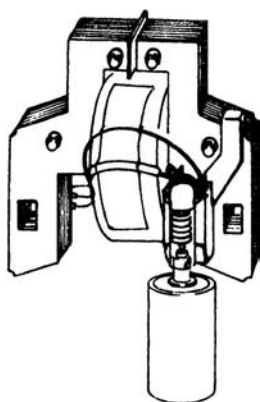

FIG. 3-22. Use a Briggs PN 294628 condenser or a drill bit to compress the spring on the trigger-module connection.
11. Compress the retainer spring with a Briggs condenser or a $\frac{3}{16}$ -in. drill bit, as shown in Fig. 3-22. Insert the end of primary wiring, which you soldered together in Step 8, together with the primary wire from the module, under the head of the retainer. This connection ties the primary ignition circuit to the trigger module and to whatever engine stop switches may be present. Release spring tension and, using